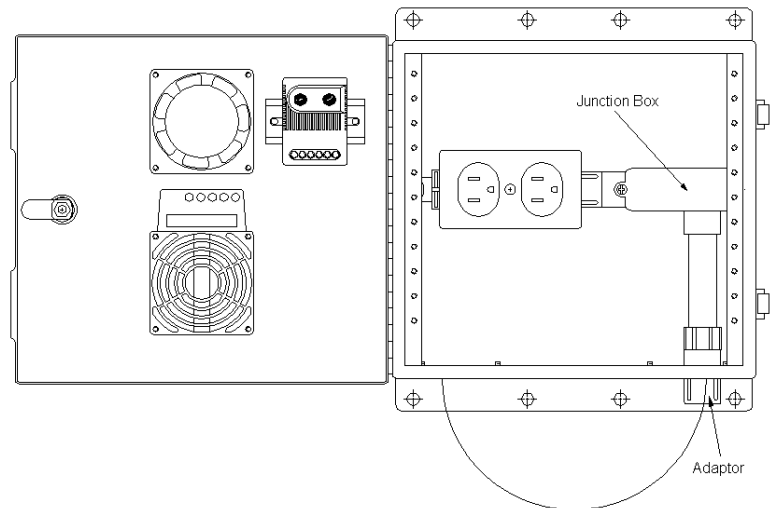

Figure 4 - Wiring the enclosure.
Step 9 – Three (3) leads are provided inside the junction box for wiring purposes. To access the leads, remove the junction box cover by removing the two screws that hold it in place (ref. *Figure 4*). The leads are color-coded based on the National Electric Code (NEC) standards as follows: